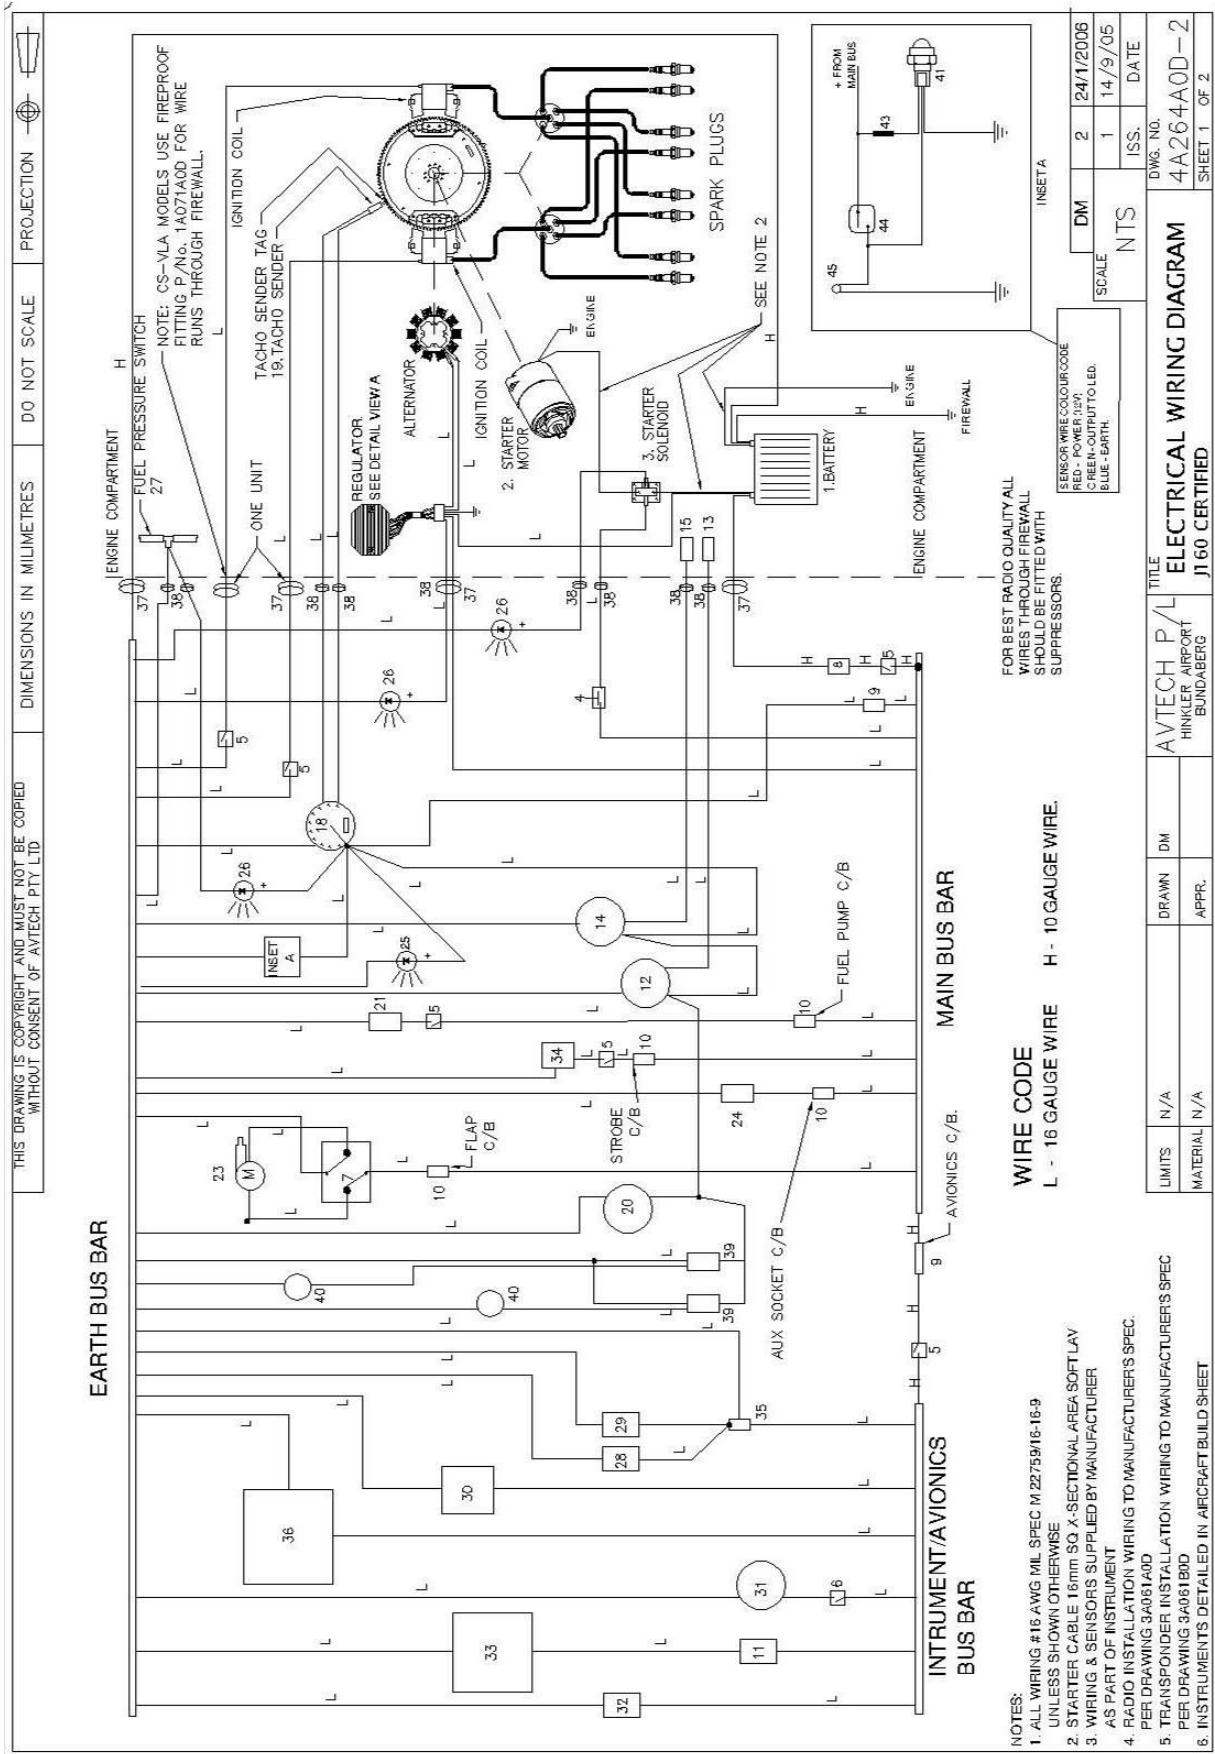

Figure 28. Wiring Diagram
- Wiring details are shown in Figure 28.
- General wiring information for the Tachometer is given in the Wiring Diagram, Figure 28. Detailed instructions on it's installation are supplied by the instrument manufacturer.
4.9 Radio Frequency (RF) Noise Reduction
- If the aircraft has a metallic firewall it can be used as a shield to block the majority of RF noise. To be most effective any wire that passes through the firewall should be fitted with a Ferrite Bead (also known as a Suppressor or RF Suppressor). Bundles of wires can have a single large Suppressor fitted rather than a Suppressor for each wire. The wiring diagram in Figure 28 shows suppressors in schematic form. These suppressors are readily available at local electronics stores.